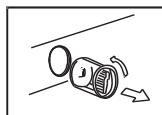

Fig2
2)Screw out filter by turning counterclockwise (Fig. 2);